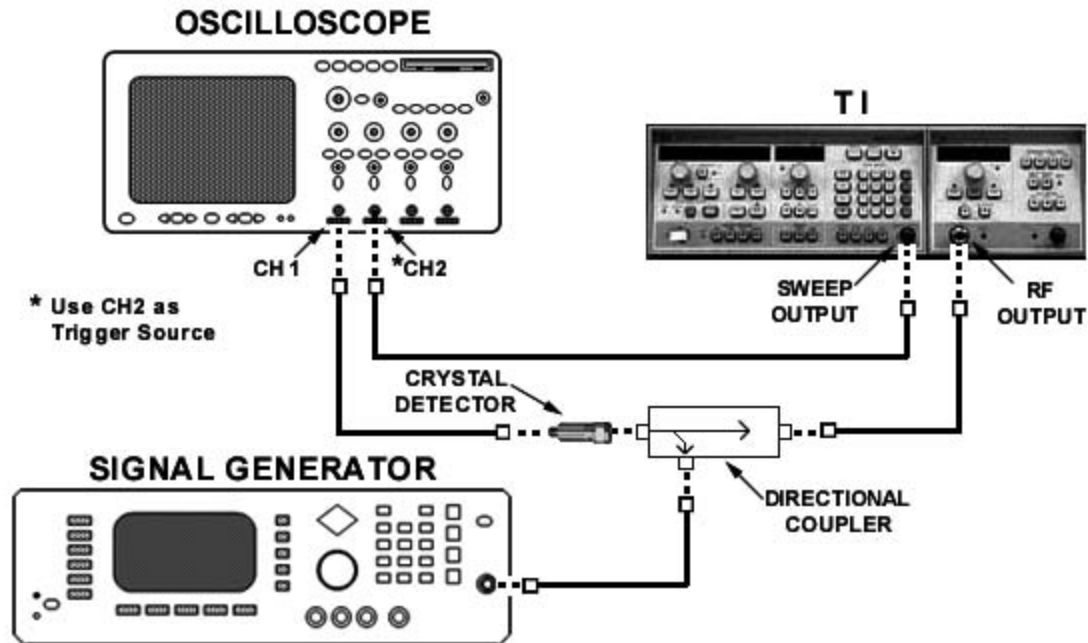

Figure 4. Swept frequency and marker accuracy - equipment setup.
- (1) Connect equipment as shown in figure 4.
- (2) Press function keys and enter corresponding data on keyboard as listed in (a) through (d) below: